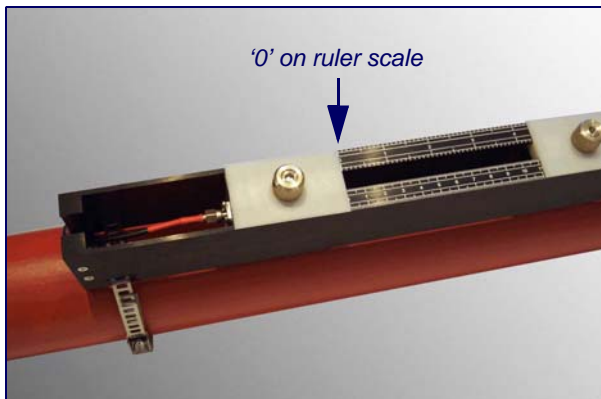

Figure 2.11
8. Position the upstream transducer so that its leading face aligns with '0' on the ruler scale then lower the transducer onto the pipe by turning the thumb screw anti-clockwise, as shown in Figure 2.11.